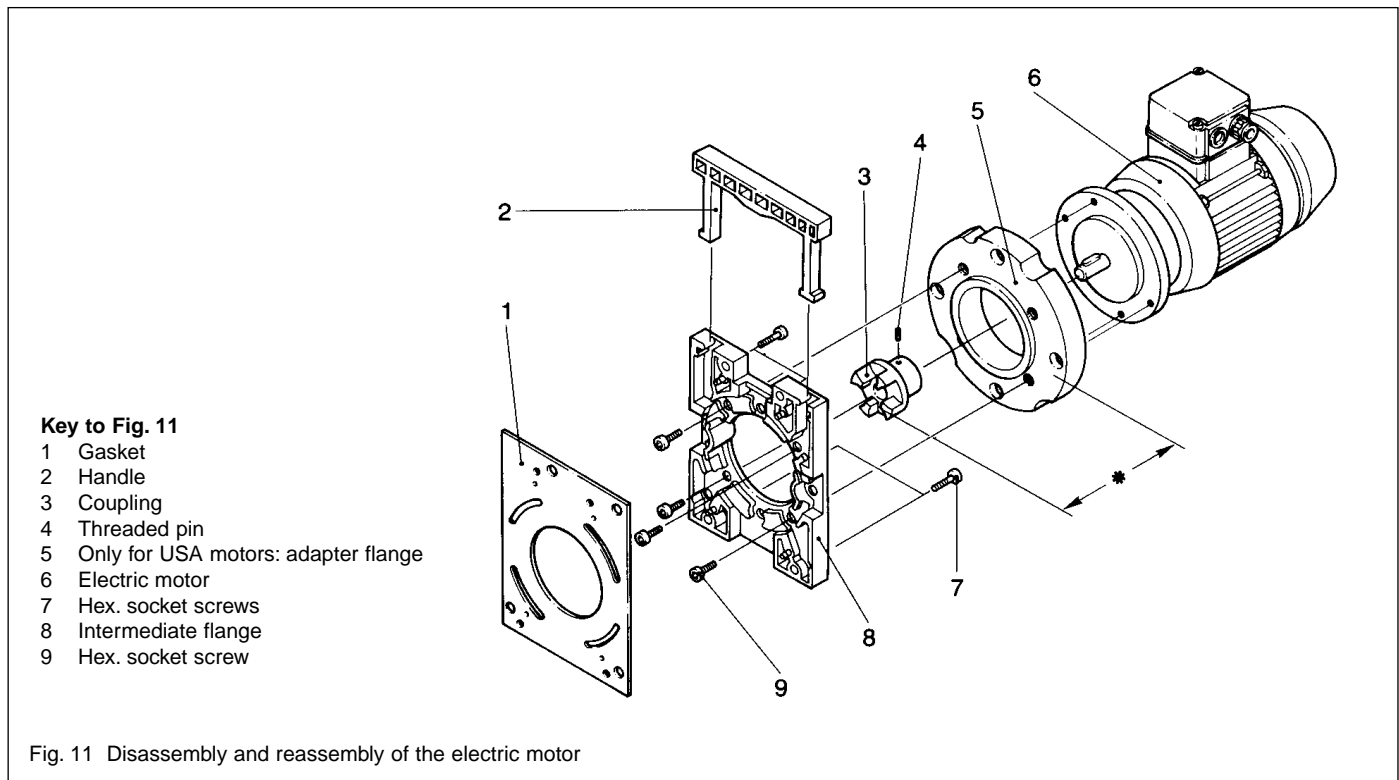

Fig. 11 Disassembly and reassembly of the electric motor
**Caution** In the case of 60 Hz motors (USA versions) with adapter flange the coupling must not be pushed on to the shaft right up to the stop. On the other hand if it is not pushed on far enough the pump module may be damaged during operation. Push the coupling on in such a way that the distance between the front end of the coupling (11/3) and front side of the adapter flange (11/5) amounts to  $41.3 \pm 0.8$  mm ( $1 \frac{5}{8} \pm \frac{1}{32}$  inch) (see Fig. 11). The adapter flange (11/5) is screwed to the motor flange with four additional screws.